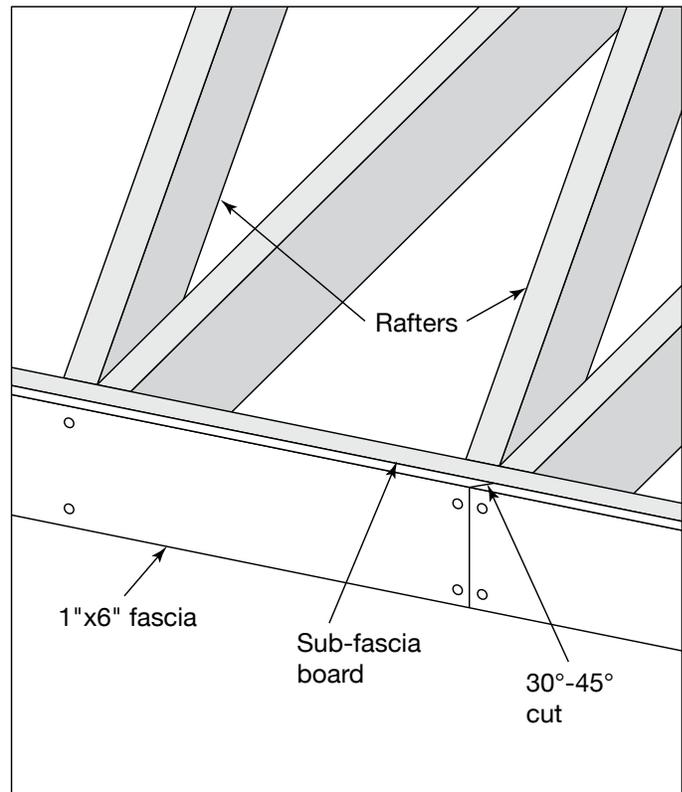

Fig. 8
- Nail the trim pieces in place within 2" of the edge of the trim piece using approved fasteners (**Fig. 8**).
- On long trim runs, use butt joints cut at 30- to 45-degree angles (**Fig. 8**).
**Note:** *TruExterior Trim may be installed directly over bricks or other masonry exteriors. When using TruExterior as fascia, a sub-fascia is required (**Fig. 8**).*